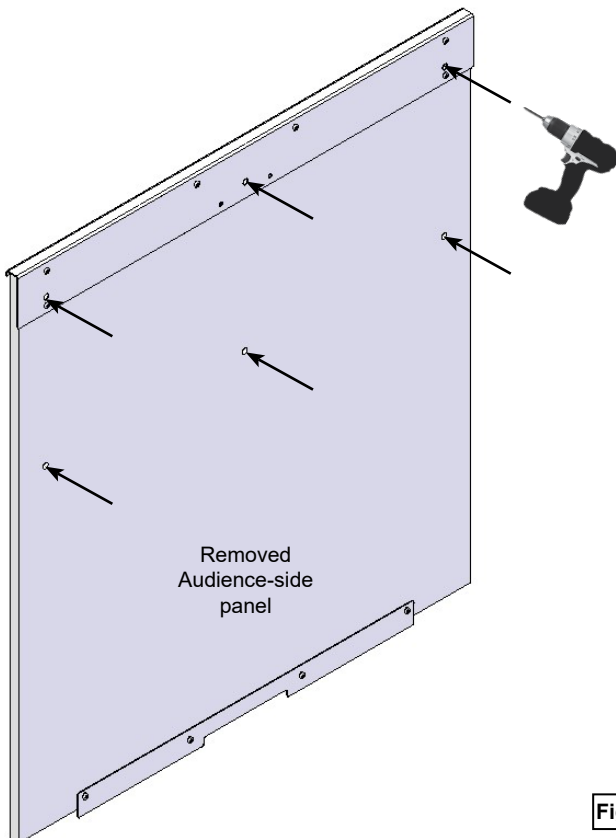

Figure 1.3
5. Locate the (6) starter holes in the back of the audience-side panel. **Figure 1.3.**